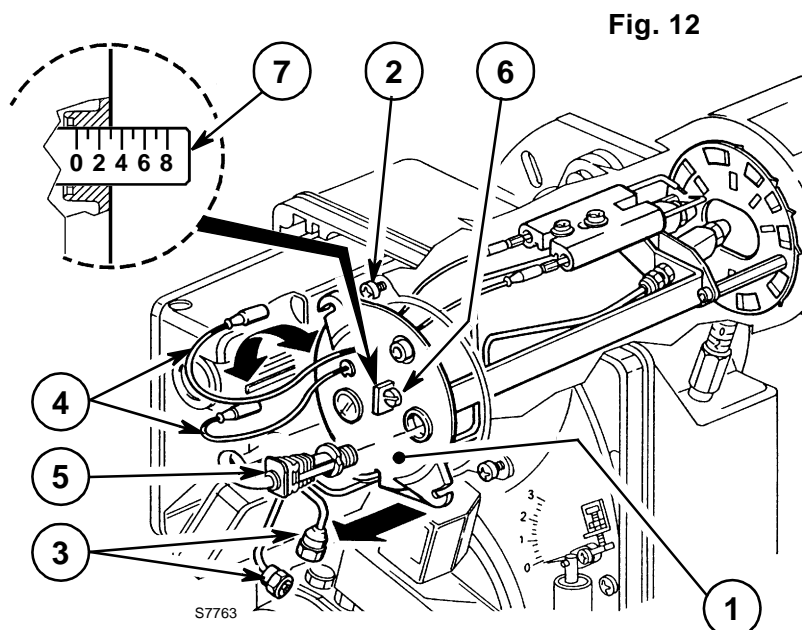

Fig. 12
REPLACE THE NOZZLES, (fig. 12 and 13)
4.3 COMBUSTION HEAD SETTING (see fig. 12, page 8)
Figure 12 shows the head regulation rod (7) set on set point 3.